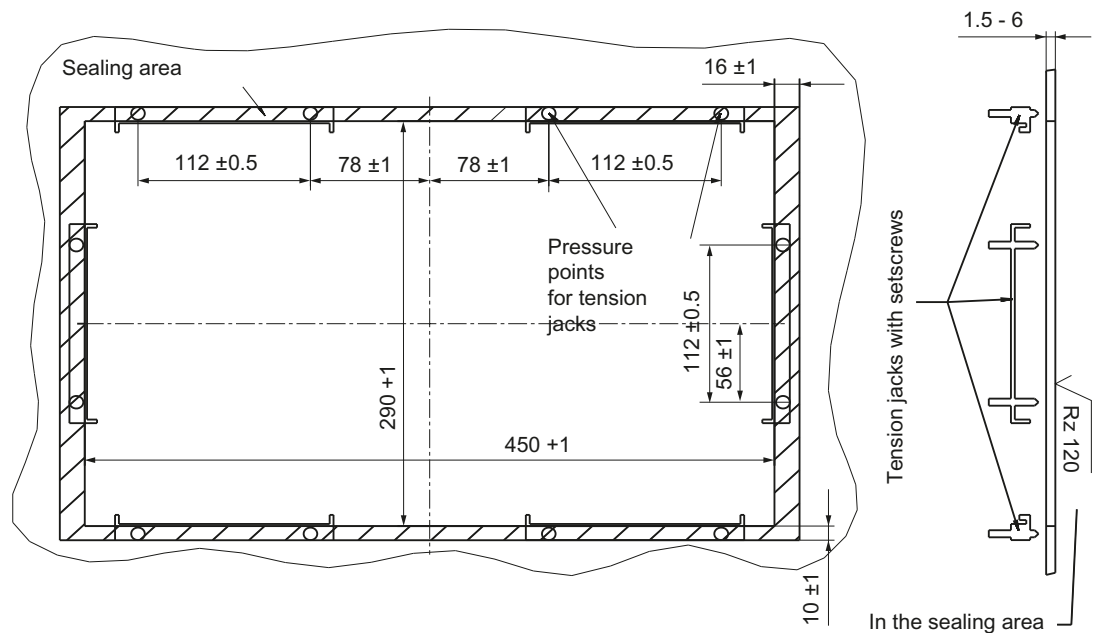

Figure 2-3 Dimension sheet for installing the OP 010 operator panel front
1. Insert the assembled components (operator panel front and PCU) from the front into the panel cutout (see Figure 2-3 Dimension sheet for installing the OP 010 operator panel front (Page 35)).